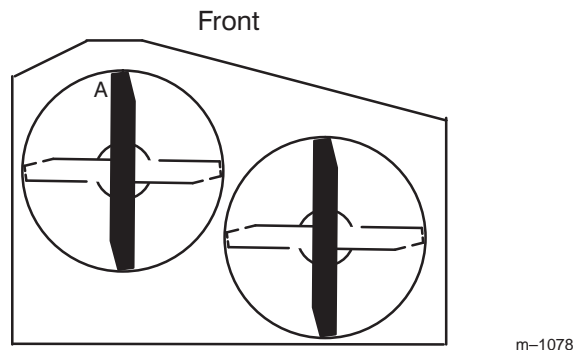
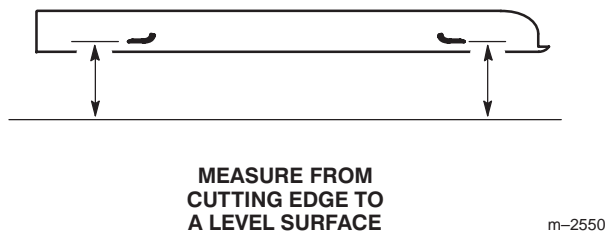

Figure 53
Figure 54
3. With the machine on level surface, position one blade front-to-rear (Fig. 53). Measure at "A" and from level surface to the cutting edge of the blade tips (Fig. 54).